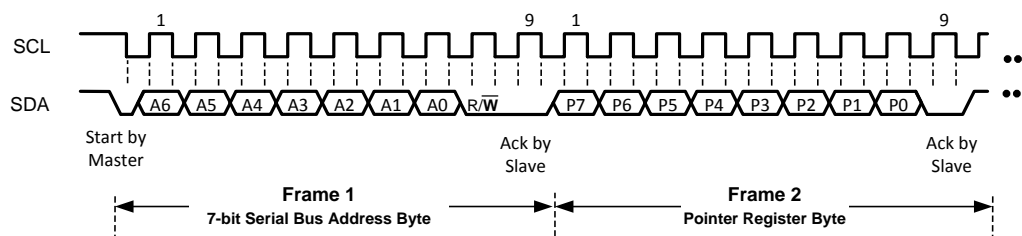

Figure 12. Trigger Humidity/Temperature Measurement
- Trigger the measurements by executing a pointer write transaction with the address pointer set to 0x00. Refer to Figure 12.
2. Trigger the measurement by executing a pointer write transaction. Refer to Figure 12